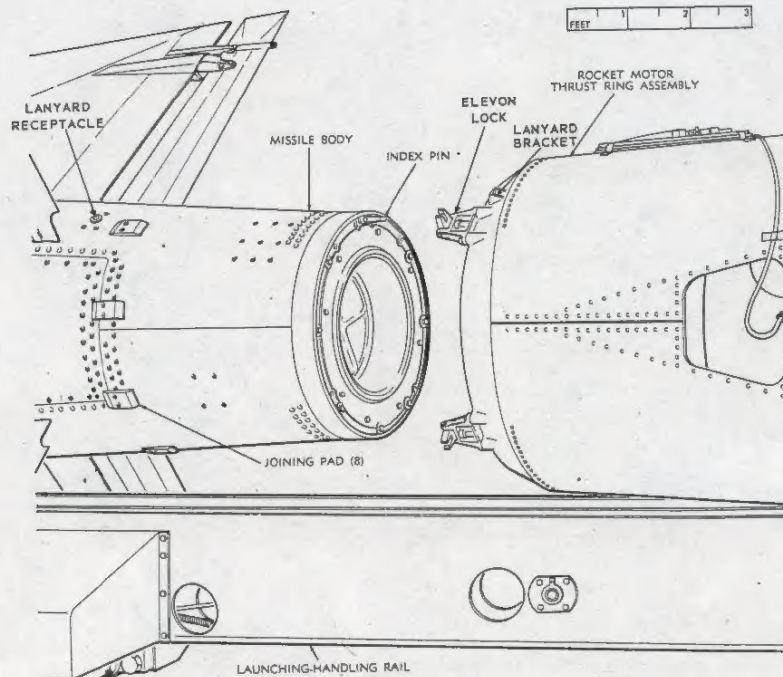

Figure 3-21. Missile body and rocket-motor cluster alignment.
- (3) Turn the elevon lock forks (fig 3-21) to the rear to prevent damage to the elevons.
- (4) Attach the missile body hoist beam to the missile body, lift the missile body from its truck, remove the lower handling ring segment and rear roll ring, and position the missile body over the launching-handling rail so that the index pin (fig 3-21) is aligned with the index slot of the rocket-motor cluster.
- (7) Connect the propulsion arming lanyard to the trigger operating plug in the actuator section and to the lanyard mounting bracket on the rocket-motor cluster thrust ring assembly (fig 3-21).